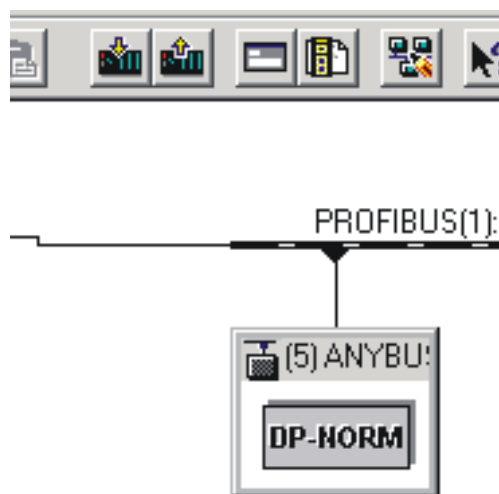

FIG. 144: ANYBUS-S PDP APPEARS IN THE NETWORK
- Step 11. The HI 3000 Series (ANYBUS) module appears in the Profibus Network. (See Fig. 144)